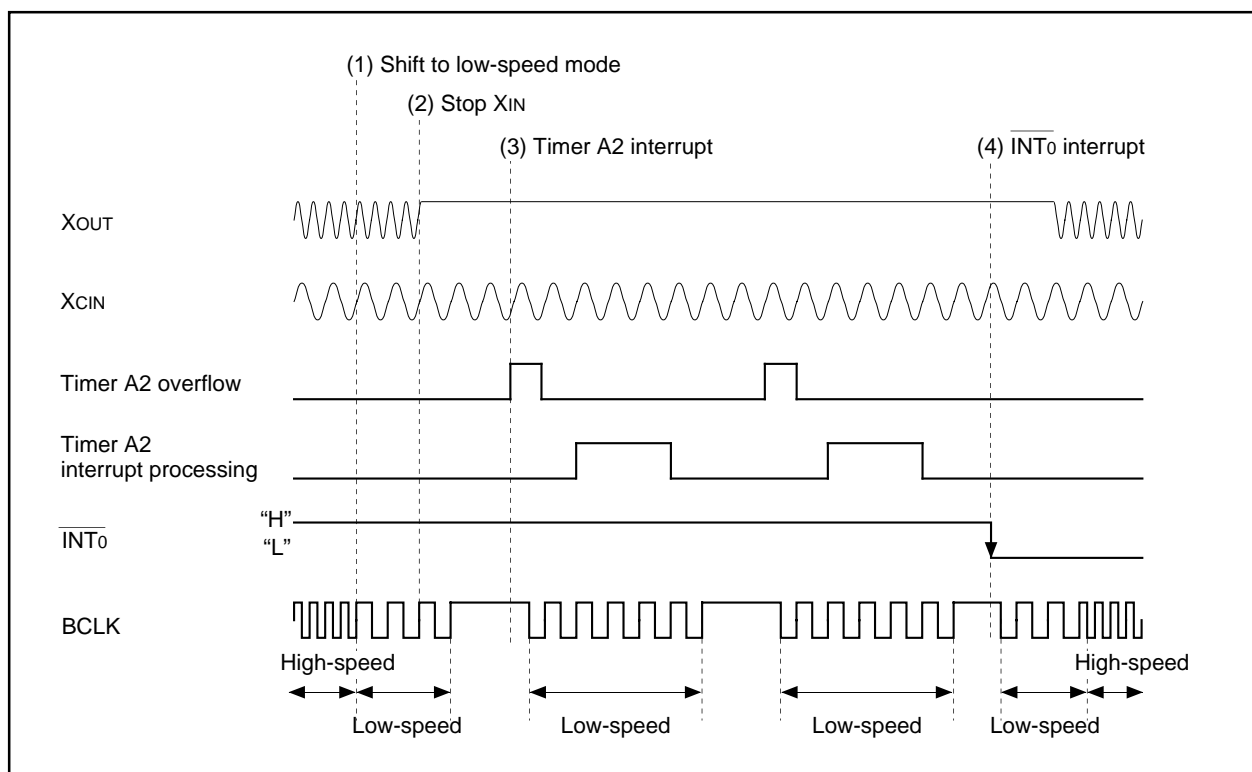
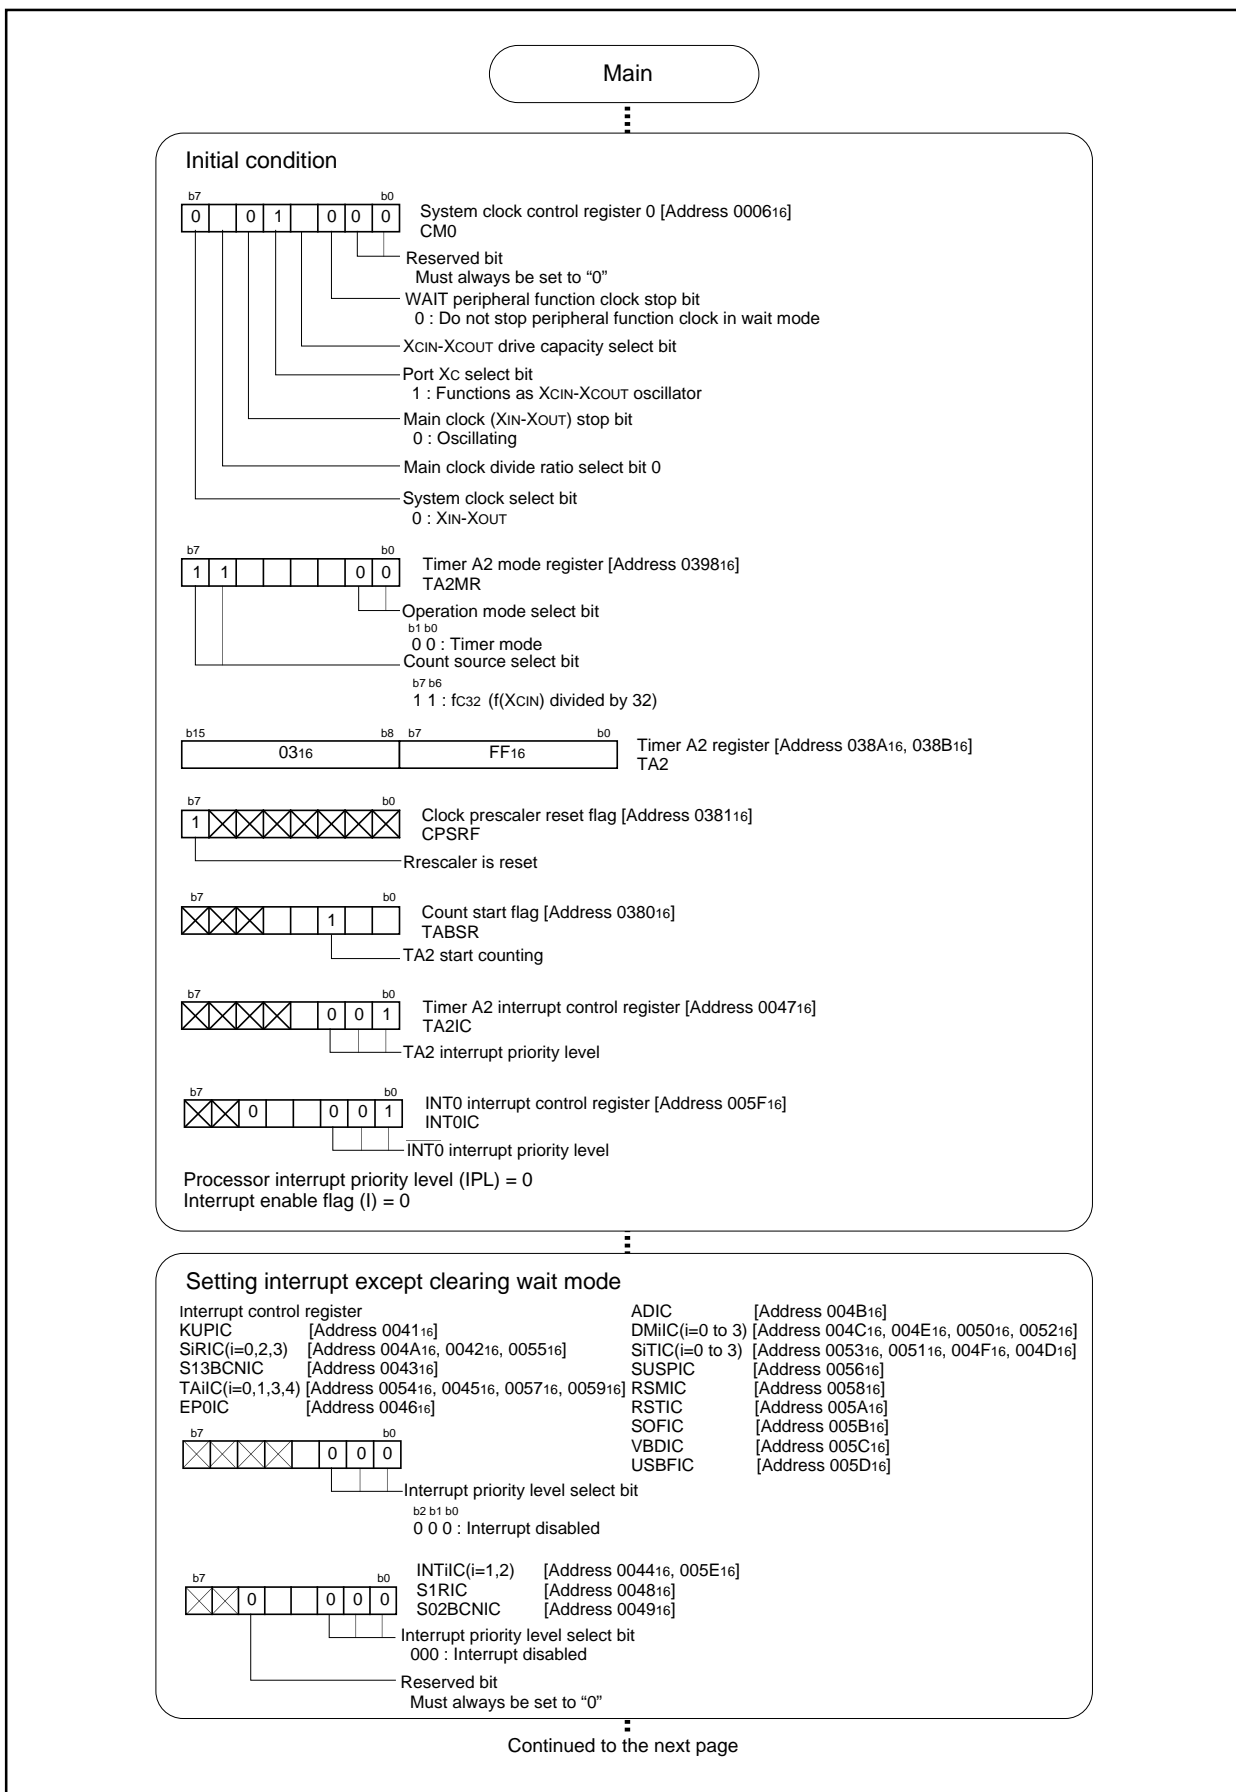

Figure 3.10.1. Operation timing of controlling power using wait mode
Figure 3.10.2. Set-up procedure of controlling power using wait mode (1)
**Overview** The following are steps for controlling power using wait mode. Figure 3.10.1 shows the operation timing, and Figures 3.10.2 to 3.10.4 show the set-up procedure.